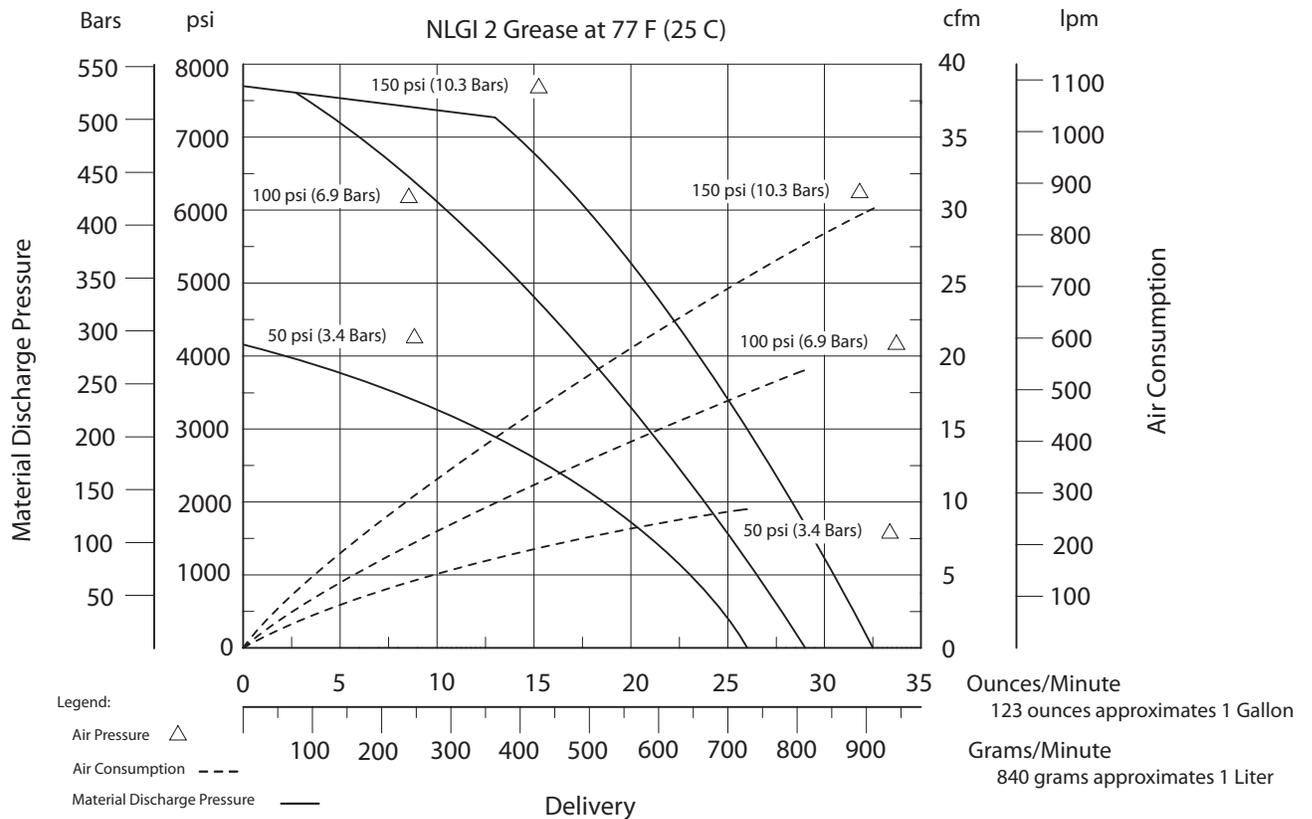

Figure 4 Delivery versus Discharge Pressure and Air Consumption
* For detailed information, refer to Figure 4